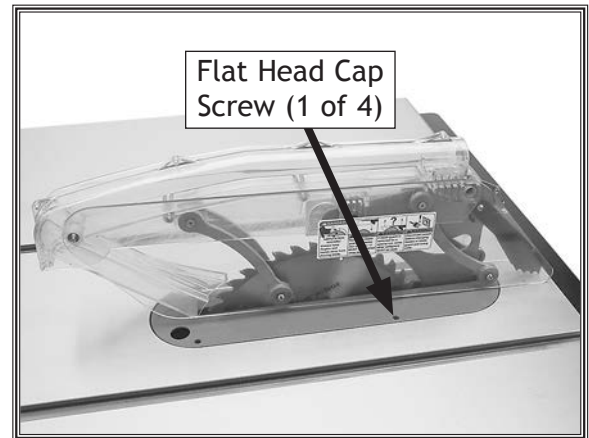

Figure 50. Blade guard installed.
3. Adjust flat head cap screws (see **Figure 50**) to make sure table insert is flush with table (use a straightedge as a guide).
Note: The blade guard, when properly installed, should be set up similarly to **Figure 50**. It should pivot freely up and down and return to the table in the resting position. It should also swing up high enough to accommodate the workpiece.